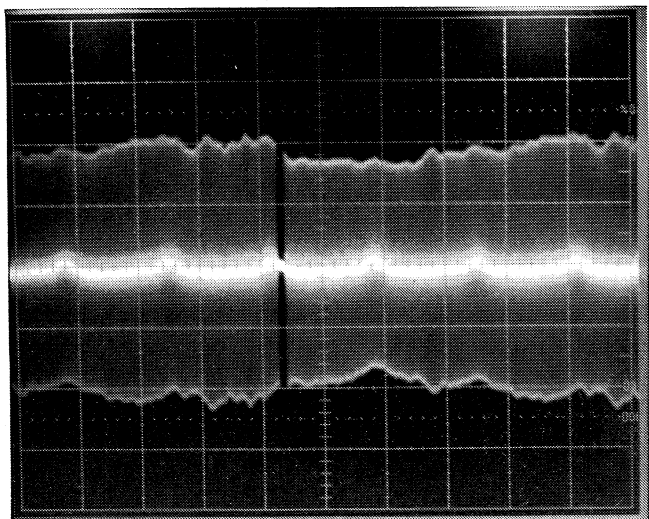

Figure A-2 Timing Track A Display
2. Observe timing track A on oscilloscope (Figure A-2). If timing track A amplitude is incorrect, refer to Table 3 for proper adjustment.
4. Move A INTEN DURING B to the gap (Figure A-2) and switch to B DELAYED.